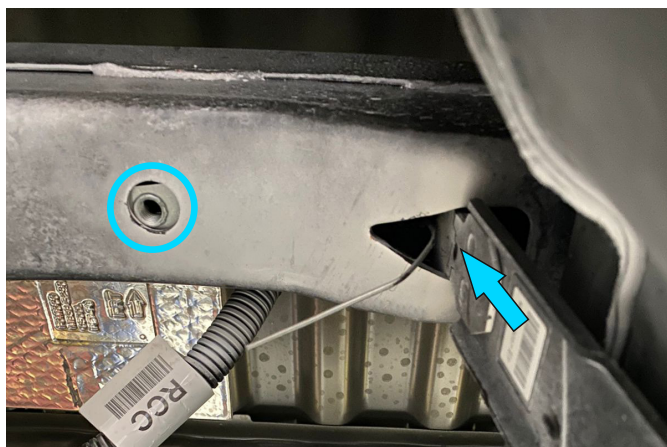

Fig. 5
3. Install insert nut M10x65 with wire (item C), as shown in fig.5.